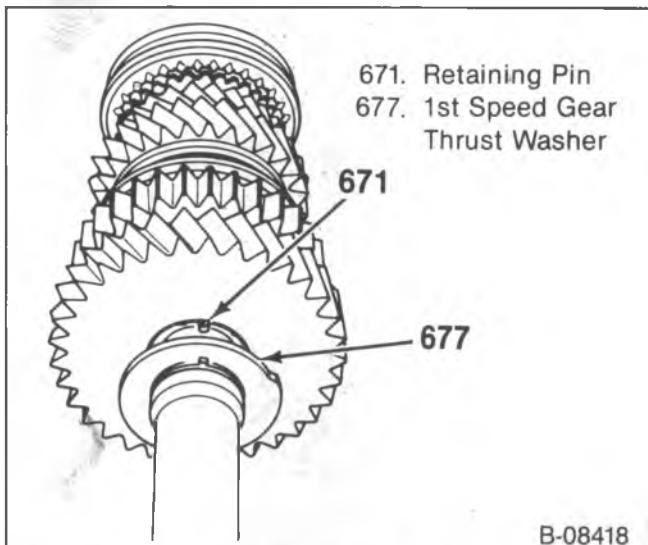
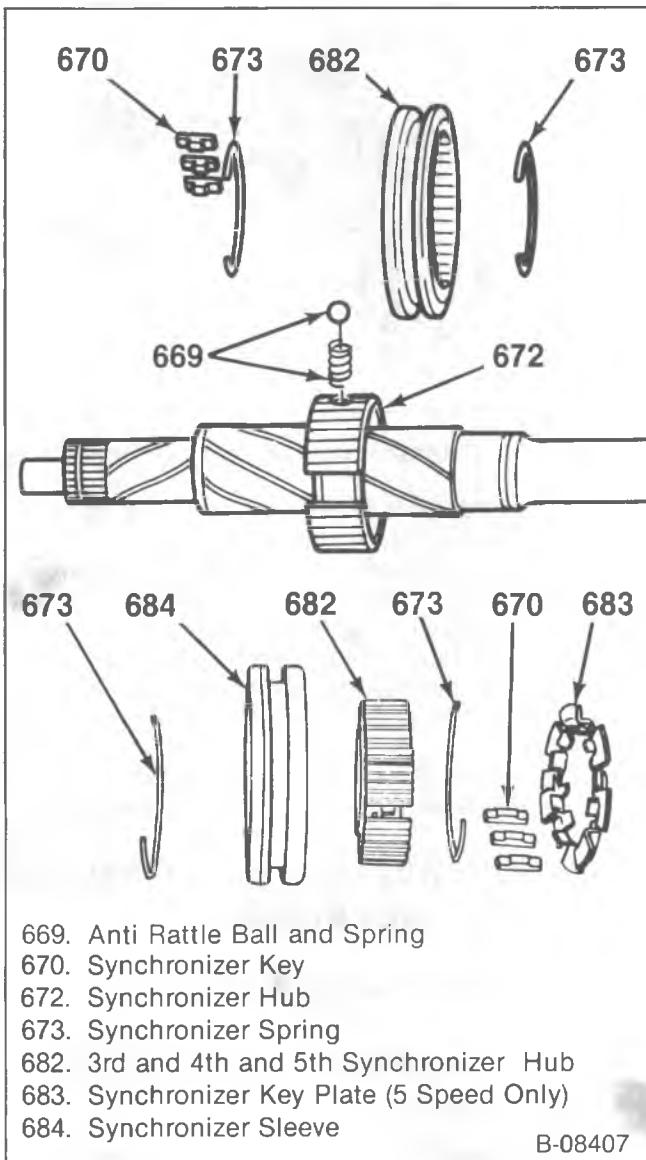
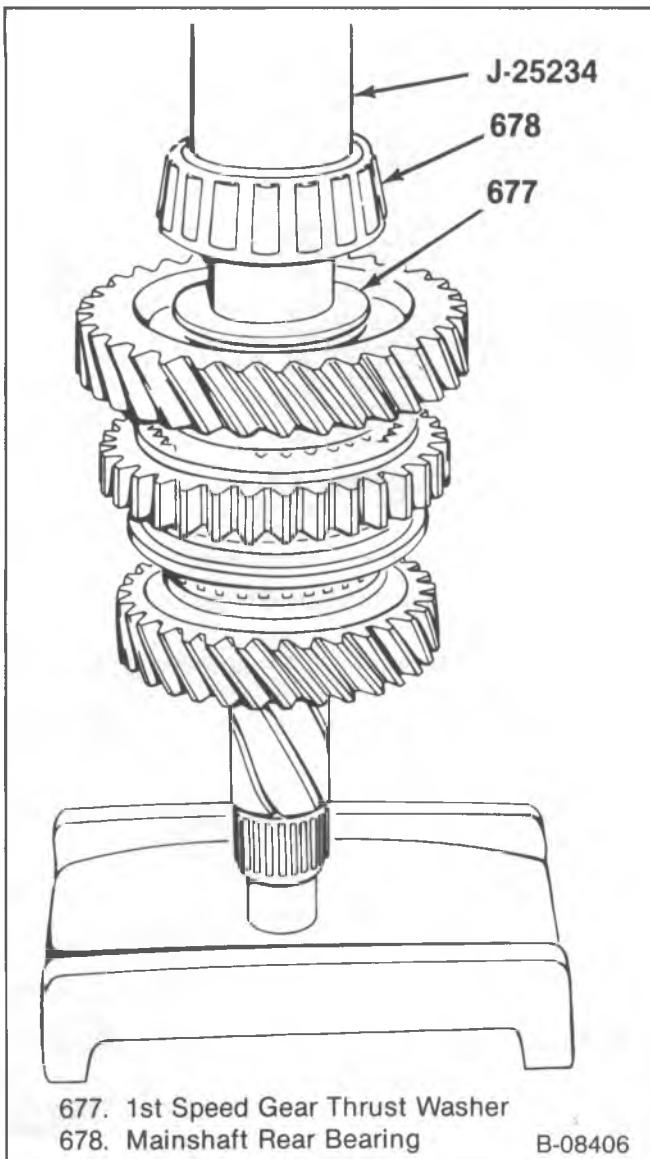

Figure 21—1st Speed Gear Retaining Ring
Figure 22—Synchronizer Components
Figure 24—Installing the Mainshaft Rear Bearing
- 7. Remove the 1st speed gear thrust washer (677).
- 8. Pull the retaining pin out and remove the 1st speed gear (676) (figure 21).
- 9. 1st and 2nd speed synchronizer sleeve (674) (figure 22).
- Do not lose the antirattle ball and spring (669) (5 speed only).
- 10. Synchronizers (630 and 662) (figure 22).
- 1. Synchronizers (630 and 662) (figure 22).
2. 1st and 2nd speed synchronizer sleeve (674) (figure 22).
- Hold the antirattle ball and spring (669) in the hub.
3. Slide the 2nd speed blocker ring (668) onto the mainshaft.
4. Slide the 2nd speed gear (667) on with the cone into the blocker ring.
5. 2nd speed gear thrust washer (666) and a new snap ring.
6. Slide the 1st speed blocker ring (675) onto the mainshaft.
7. Install the 1st speed gear (676) and a new retaining pin (figure 21).
8. Slide the 1st speed gear thrust washer (677) against the gear.
9. Install the mainshaft rear bearing (678).
- The bearing may have to be pressed on using J 25234 (figure 24).
10. Install the 5th speed driven gear (679) using J 22912-01.
11. Slide the 3rd speed gear (664) on with the cone to the front.
12. Slide the 3rd speed blocker ring (663) onto the 3rd speed gear.
13. Install the 3rd and 4th synchronizer (662) with the hub offset to the front.
14. Slide the 4th speed blocker ring (661) into the 3rd and 4th synchronizer.